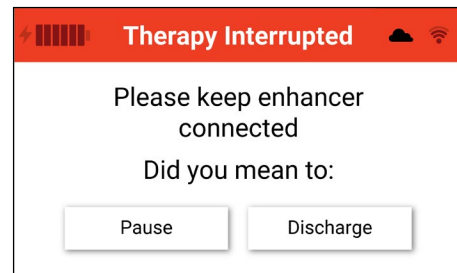

Figure 30. Keep Enhancer connected prompt screen
1. If the enhancer is disconnected while running, a prompt will appear with a five (5) second auditory tone. Reconnect the enhancer into the front of the controller or make a selection to dismiss the prompt. Do not use the button to insert the connector. Push until there is a click. (Fig. 30)